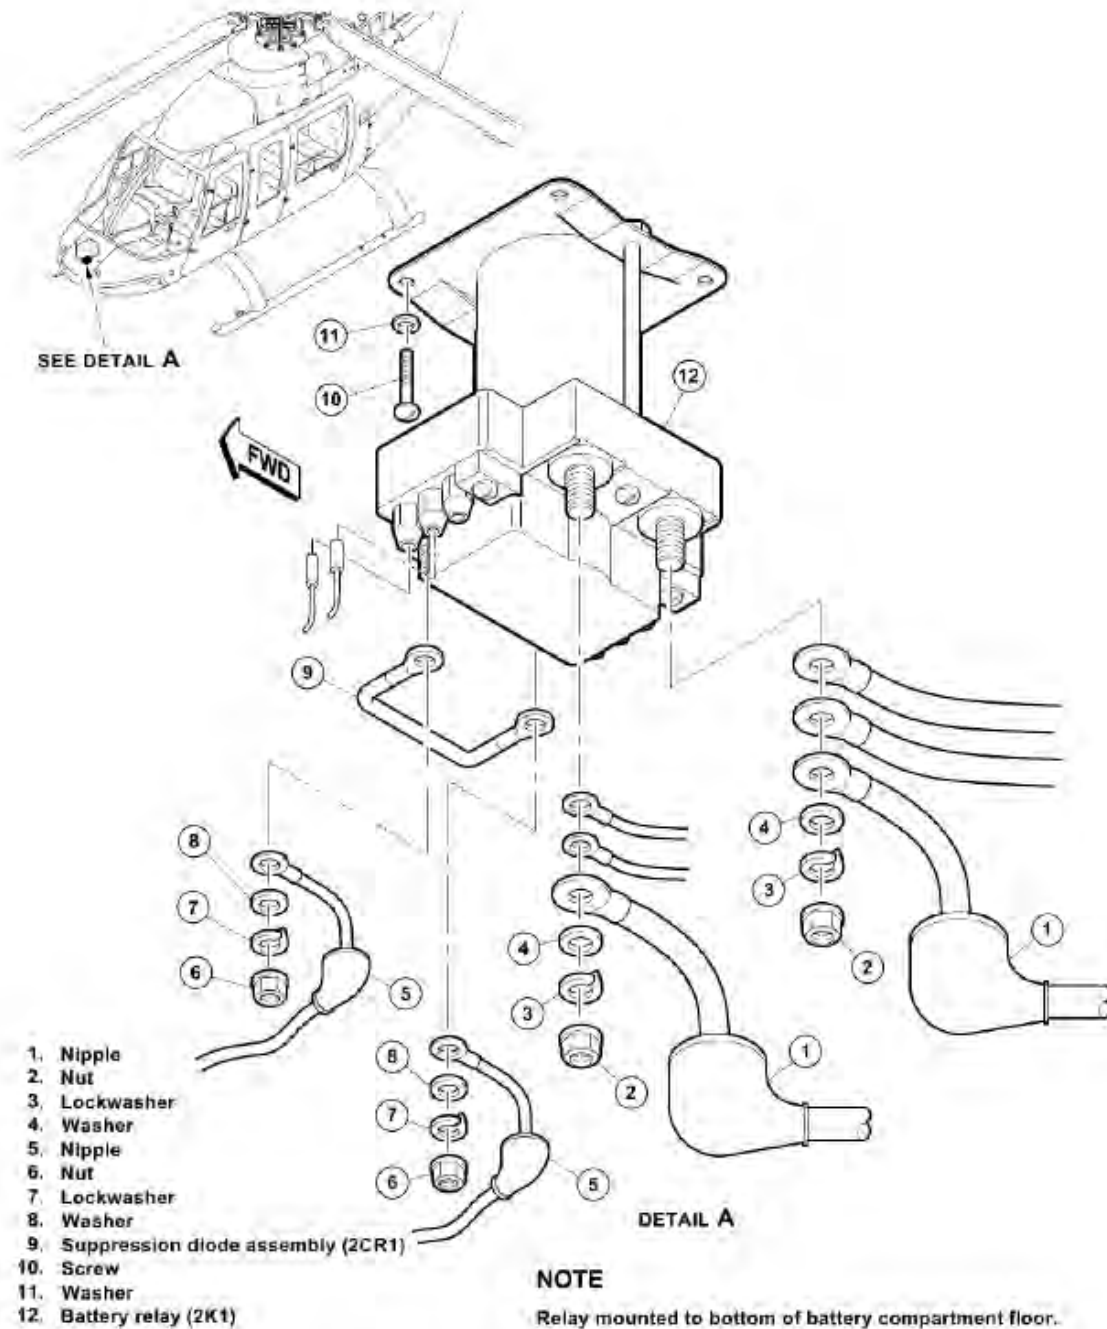

Figure 96-20: Battery Relay (2K1) - Removal and Installation
3. Install the battery (15, Figure 96-20, Figure 96-21) in the battery compartment.
4. On the sides of the battery (15), install the vent tube assemblies (2 and 4) and clamps (1 and 3).
5. Install the bracket, bolts (7), and washers (8) at the front of the battery (15).
2. Gain access to the battery relay (2K1) (12, Figure 96-20) through the landing lights cover.
3. Pull the nipples (1). Remove the nuts (2), lockwashers (3), and washers (4). Remove the wires.
4. Pull the nipples (5). Remove the nuts (6), lockwashers (7), washers (8), wires, and suppression diode assembly (2CR1) (9).
1. Install the battery relay (2K1) (12, Figure 96-20) on its mounting base at FS 155.00, DC equipment panel. Install the washers (11) and the screws (10).